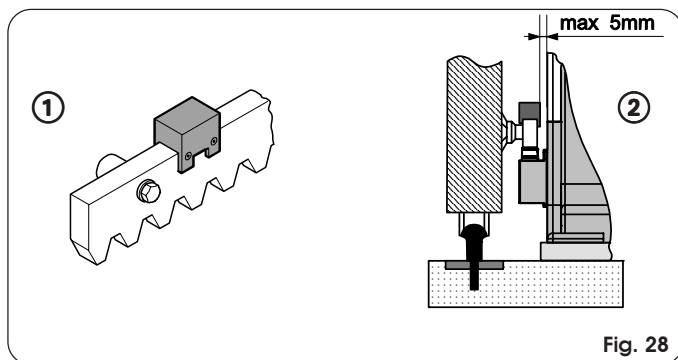

Fig. 28
- Position the magnets on the rack as shown in Fig. 28 Ref ①. Make sure that distance between the magnet and the operator's body is 5mm max (Fig. 28 Ref. ②).